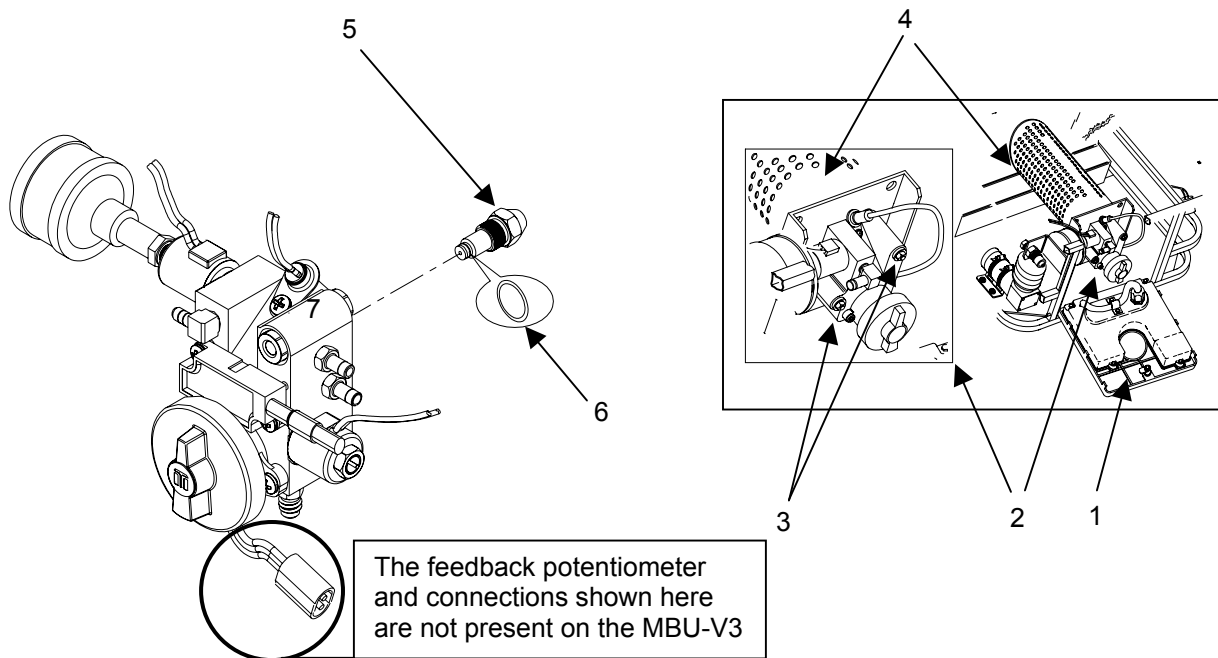

Figure 2. Replace the Fuel Nozzle
1. Open control panel (**figure 2, item 1**) to gain access to fuel delivery block (**figure 2, item 2**).
2. Remove two hex nuts and washers (**figure 2, item 3**) securing fuel delivery block (**figure 2, item 2**) to the burner tube assembly (**figure 2, item 4**).
3. Move fuel delivery block (**figure 2, item 2**) out of the way to gain access to the nozzle (**figure 2, item 5**).
4. Unscrew the nozzle (**figure 2, item 5**) from the fuel delivery block (**figure 2, item 2**).
5. Lubricate the O-ring (**figure 2, item 6**) on the replacement fuel nozzle (**figure 2, item 5**) with a small amount of clean fuel. The O-ring is supplied in place on the fuel nozzle.
6. Screw the replacement fuel nozzle (**figure 2, item 5**) into the fuel delivery block (**figure 2, item 2**).
7. With the replacement nozzle (**figure 2, item 5**) installed, move the fuel delivery block (**figure 2, item 2**) into position. Replace tighten two hex nuts and washers (**figure 2, item 3**) securing them tightly to the burner tube (**figure 2, item 4**).
8. Close control panel (**figure 2, item 1**) and secure.